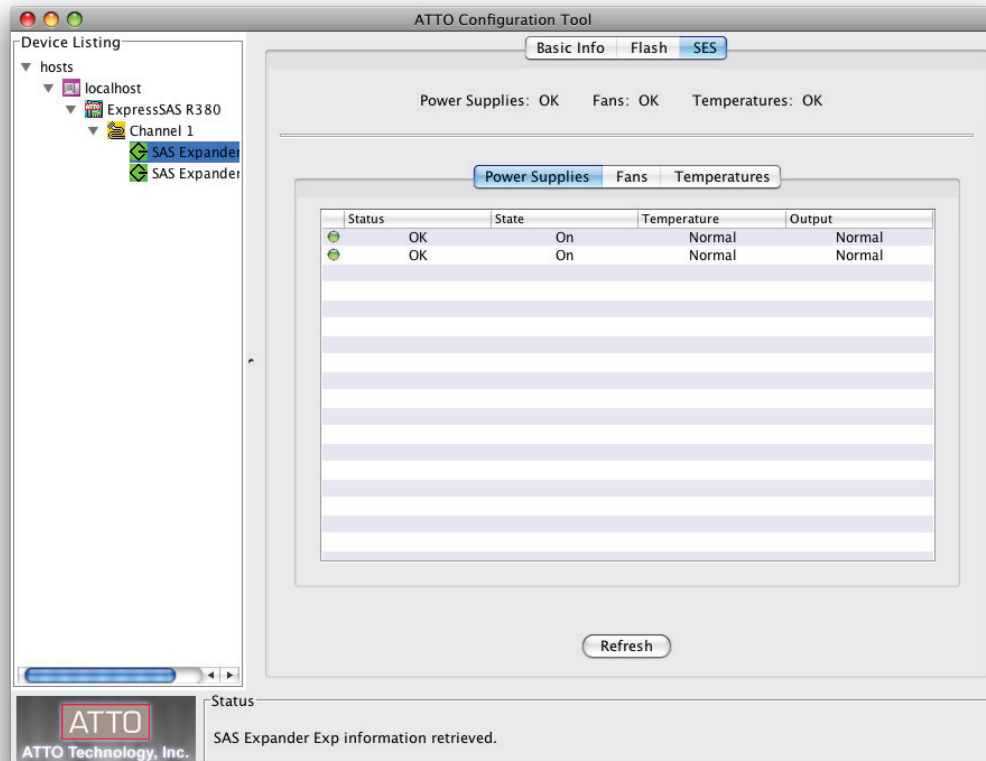

Figure 20
3. View the overall status of each component across the top of the right pane. See **Figure 20** on page 24.